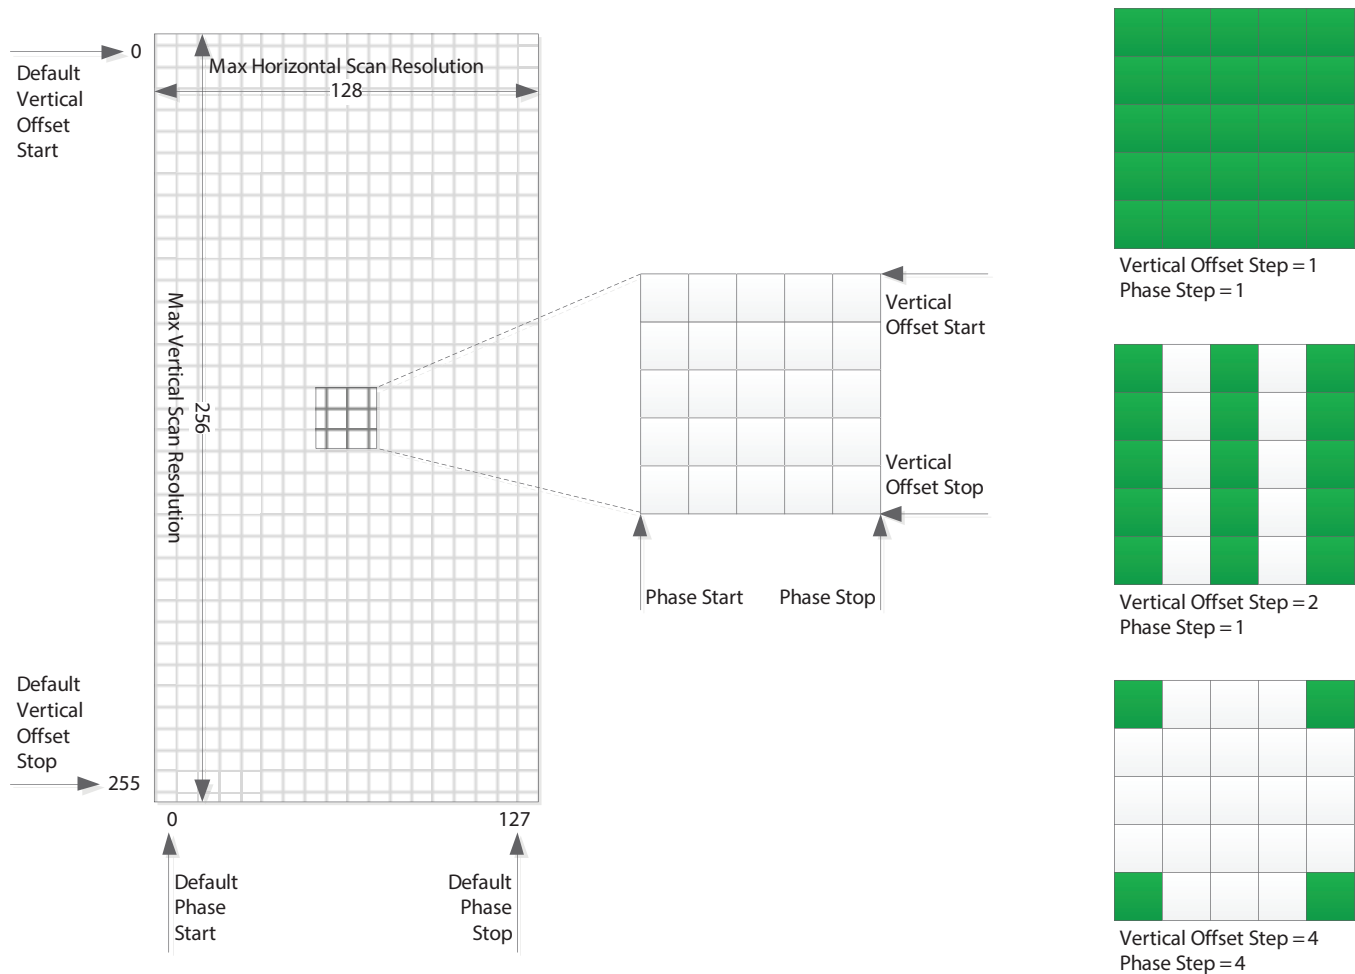

Figure 4-5: Eye Scan Matrix Parameters
Figure 4-5 shows a visual representation of the scan matrix and indicates the spatial parameters that determine the scan area and resolution. Running a scan using the default offset and step parameters, results in 32768 (128x256) samples. The number of samples and thus, the total scan time can be reduced to meet the needs of the application. The scan area can be reduced by reducing the span determined by the vertical and phase start and stop offsets, or the resolution can be reduced by increasing the step size between adjacent samples. On the right in Figure 4-5, there are three step settings used as examples, however there are a total of nine combinations possible. See Table 4-6 for the register addresses and parameter names of the spatial eye scan parameters.
- ♦ Making reference to the Matrix shown in Figure 4-5, the eye scan data starting at 0x6CC3 is stored in order from left to right, top to bottom, from the last stored vertical/horizontal position in the matrix